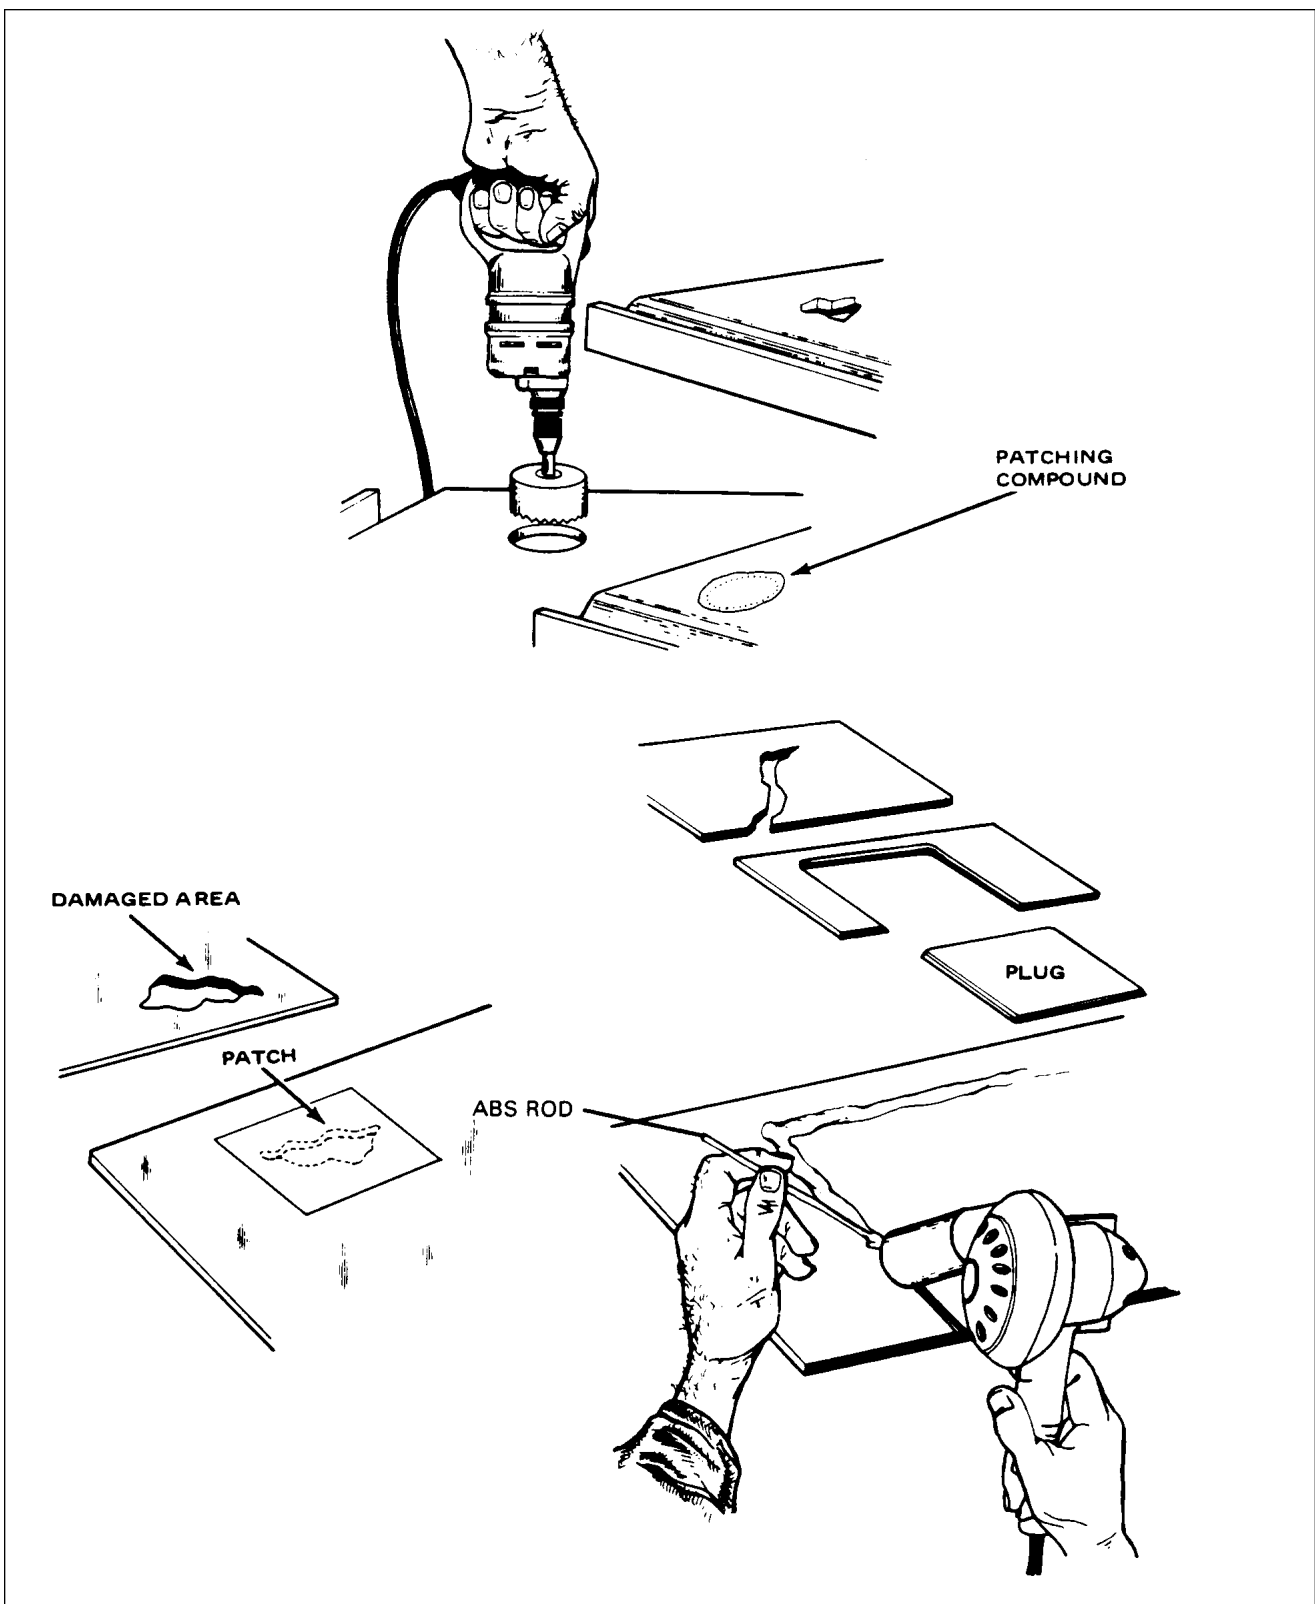

Figure 51-8. Various Repairs
5. Repairing Major Damage: (Larger than 1 inch in diameter.) (Refer to Figure 51-8.)